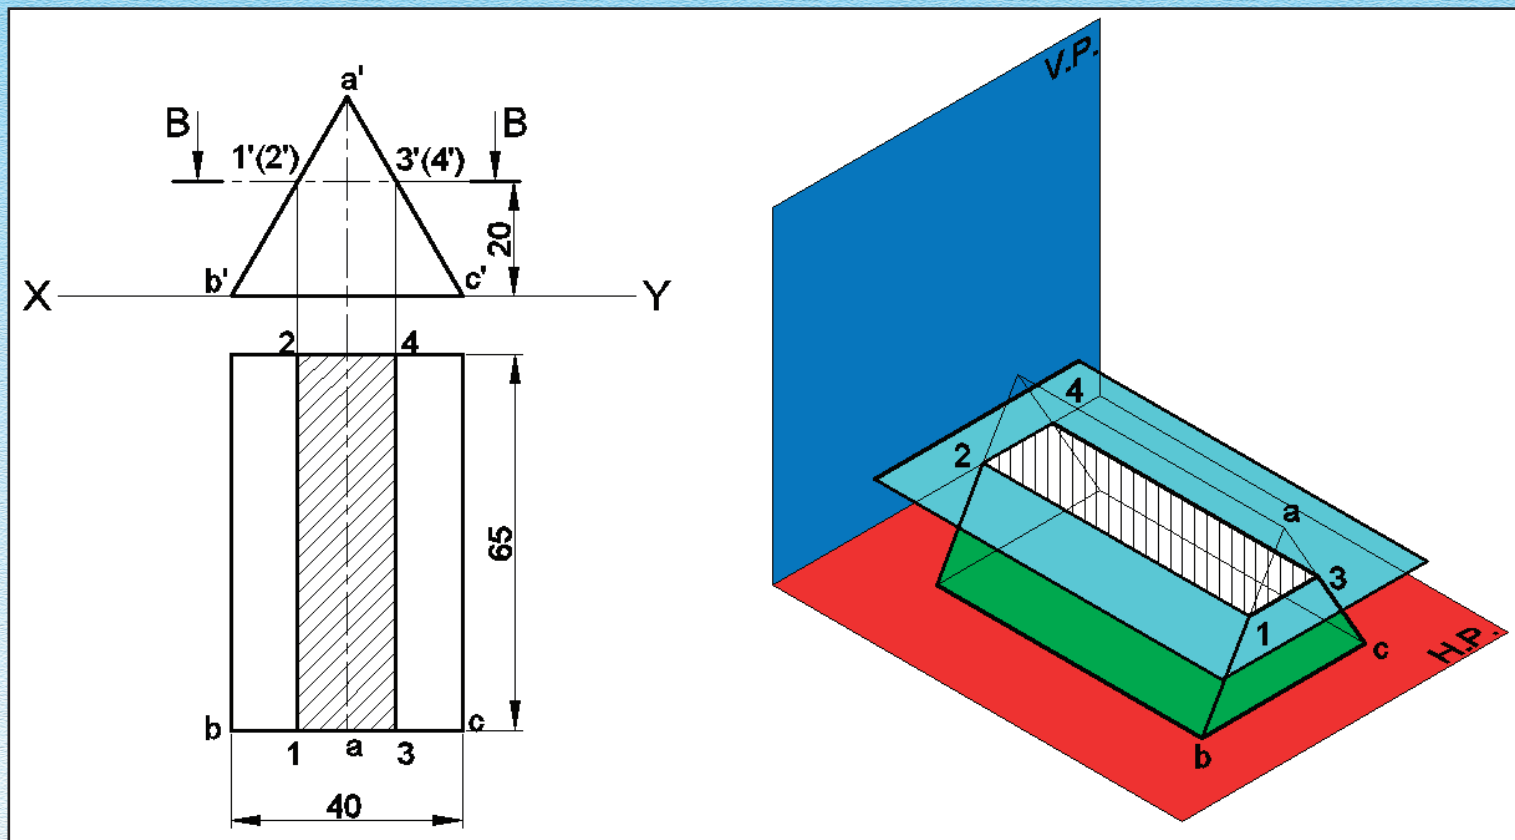

Fig. 5.17
Solution : Refer to fig. 5.17 (a)
4. Project these pts. on their corresponding edges in the Top View. as shown in Fig. 5.17 (a)